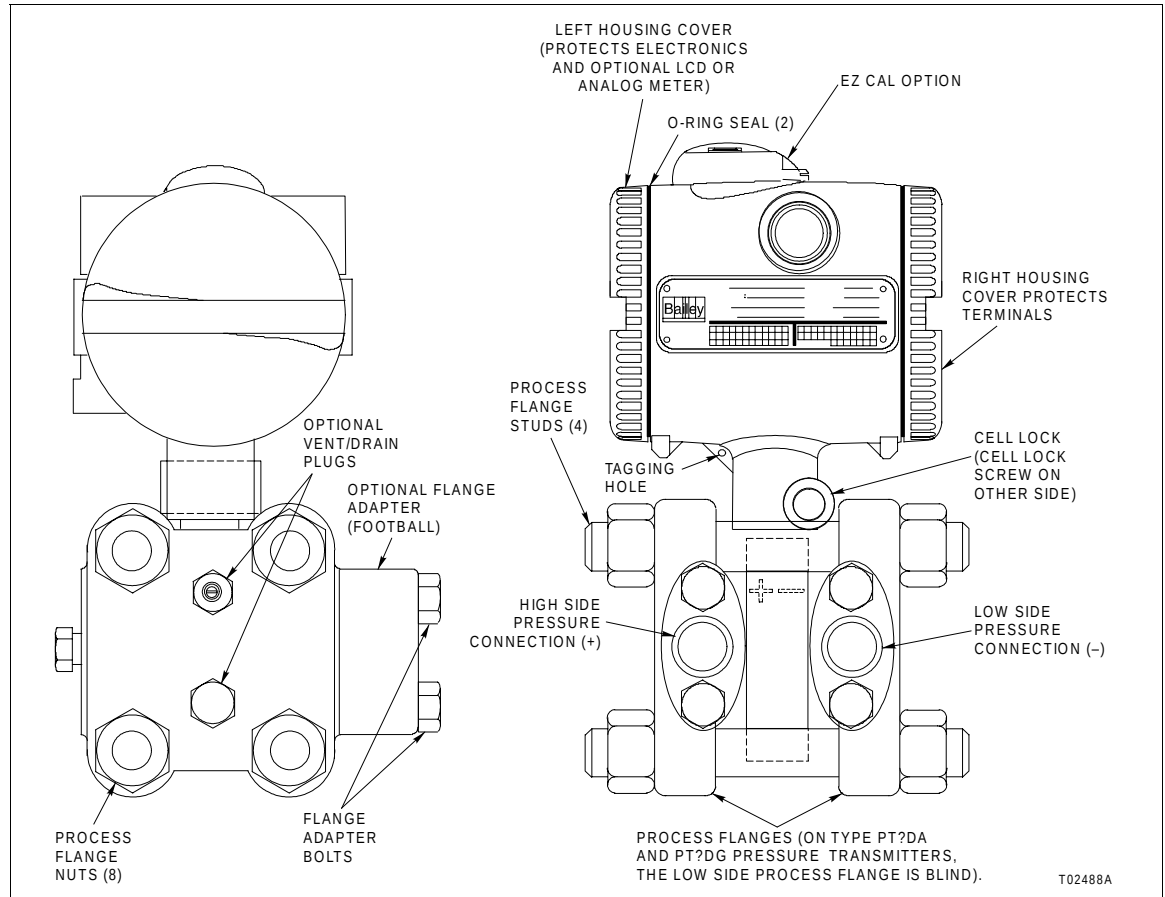

Figure 7-1. External Components
2. Remove the left housing cover (Fig. 7-1).
5. Use the 4-millimeter or $\frac{5}{32}$ -inch Allen wrench to remove the cell lock screw (Fig. 7-1).
6. Remove the cell lock (Fig. 7-1).
10. Remove the cell, process and cover O-rings (Figs. 7-1 and 7-3).
10. Install the cell lock and tighten the cell lock screw (Fig. 7-1).
2. Remove the housing covers from the electronics housing (Fig. 7-1). If the housing covers **do not** require replacing, go to Step 3. If the housing covers **do** require replacing, go to Step 6.
3. Remove the cover O-rings (Fig. 7-1).